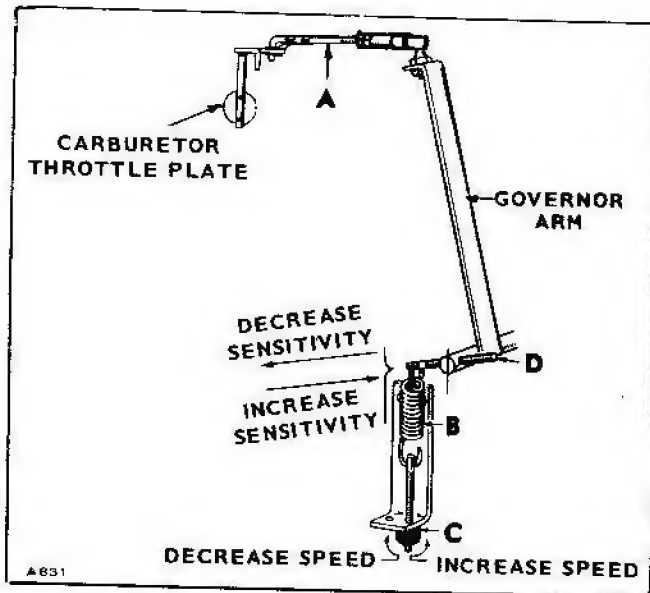

FIG. 3-1
With the plant stopped, the length of linkage A must (with tension on spring B) allow the carburetor throttle stop lever to just clear (maximum 1/32-in.) the carburetor body (Fig. 3-1). Alter linkage length by turning the bail joint on the threaded rod. Run the plant (under load) to thoroughly warm it up.
1. **Alternating Current Plant:** Connect a voltmeter across the generator output. With the plant operating at no-load, adjust the speed nut C (Fig. 3-1) for a voltmeter reading of 126-volts for 120-volt plants (252-volts for 240-volt plants). Voltage should not fall below 108-volts for a 120-volt plant (216-volts for a 240-volt plant) under full rated load.
3. **Battery Charging Plant:** Turn speed nut C (Fig. 3-1) to give the desired charge rate. Normal speed, as specified on the nameplate, is approximately 2400 rpm. If the charge rate tends to "taper off" too soon, turn the sensitivity screw D clockwise. If the charge rate is unsteady, turn the sensitivity screw D counterclockwise.